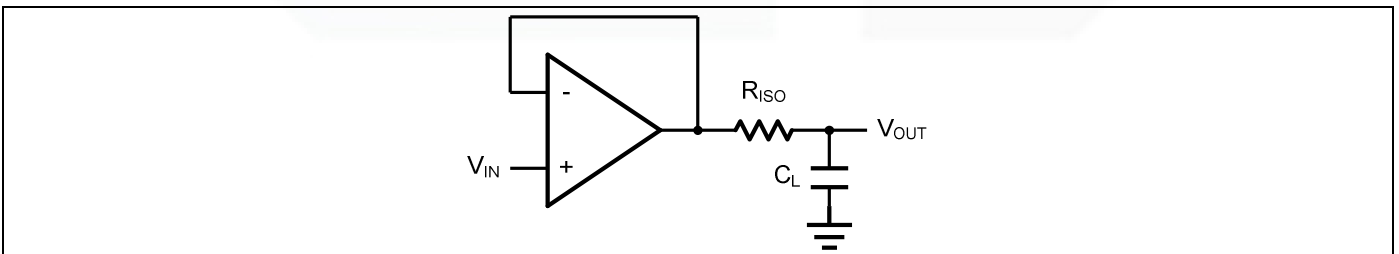
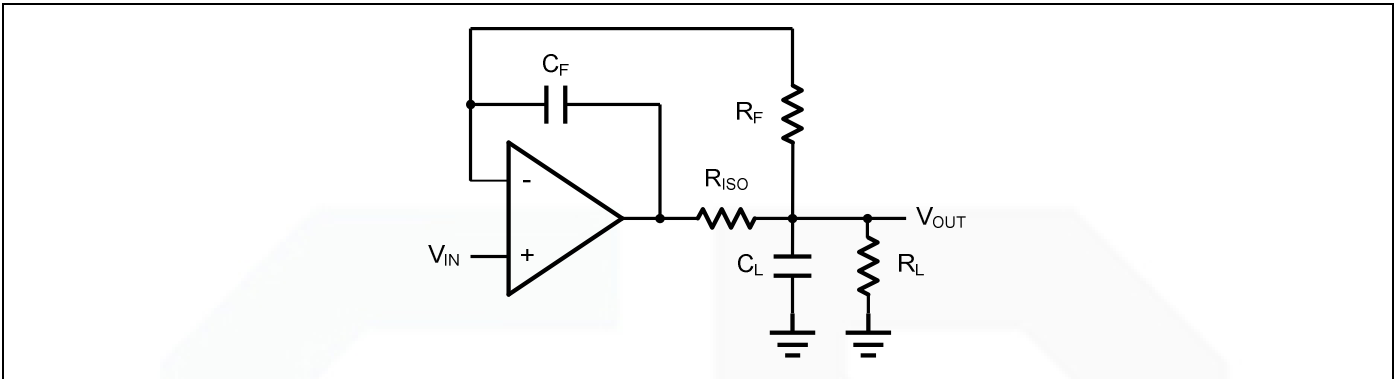

Figure 2. Indirectly Driving a Capacitive Load Using Isolation Resistor
Figure 3. Indirectly Driving a Capacitive Load with DC Accuracy
The GS3130 is optimized for bandwidth and speed, not for driving capacitive loads. Output capacitance will create a pole in the amplifier's feedback path, leading to excessive peaking and potential oscillation. If dealing with load capacitance is a requirement of the application, the two strategies to consider are (1) using a small resistor in series with the amplifier's output and the load capacitance and (2) reducing the bandwidth of the amplifier's feedback loop by increasing the overall noise gain. Figure 2. shows a unity gain follower using the series resistor strategy. The resistor isolates the output from the capacitance and, more importantly, creates a zero in the feedback path that compensates for the pole created by the output capacitance.
The circuit in Figure 3 is an improvement to the one in Figure 2. R_F provides the DC accuracy by feed-forward the V_{IN} to R_L . C_F and R_{ISO} serve to counteract the loss of phase margin by feeding the high frequency component of the output signal back to the amplifier's inverting input, thereby preserving the phase margin in the overall feedback loop. Capacitive drive can be increased by increasing the value of C_F . This in turn will slow down the pulse response.